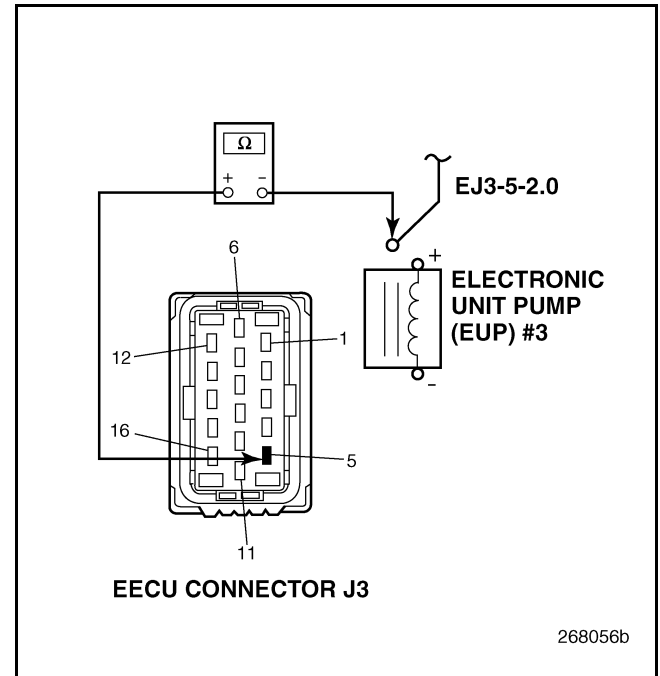

Figure 764
4. Check for continuity between EECU harness connector J3 pin 5 and circuit EJ3-5-2.0 at EUP Solenoid 3 (see Figure 764).